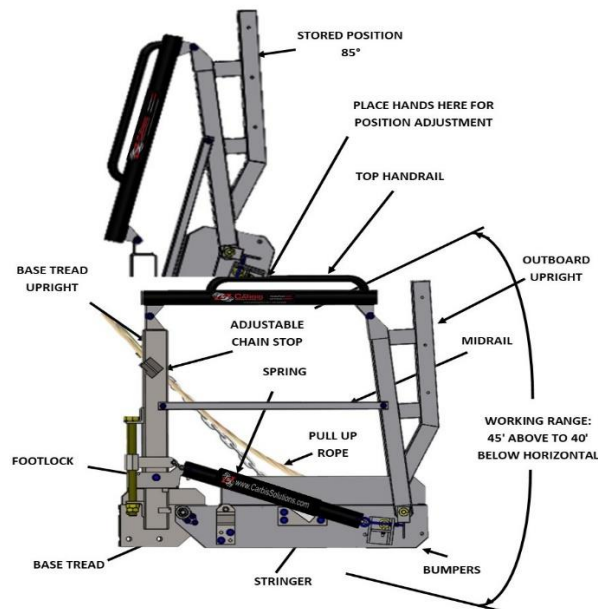

FIGURE 2-1 TCG-2000 GANGWAY GENERAL ARRANGEMENT
a) MECHANICAL EQUIPMENT (SEE FIGURE 2-1.)**i) GANGWAY**
- 6) Stringer attached adjustable chains supported by base tread upright mounted slotted tube chain locks when secured hold the gangway in any desired position within the normal working range of 15 degrees above to 15 degrees below horizontal. **(See FIGURE 2-1).** *The range may be modified within the limits to accommodate options.*